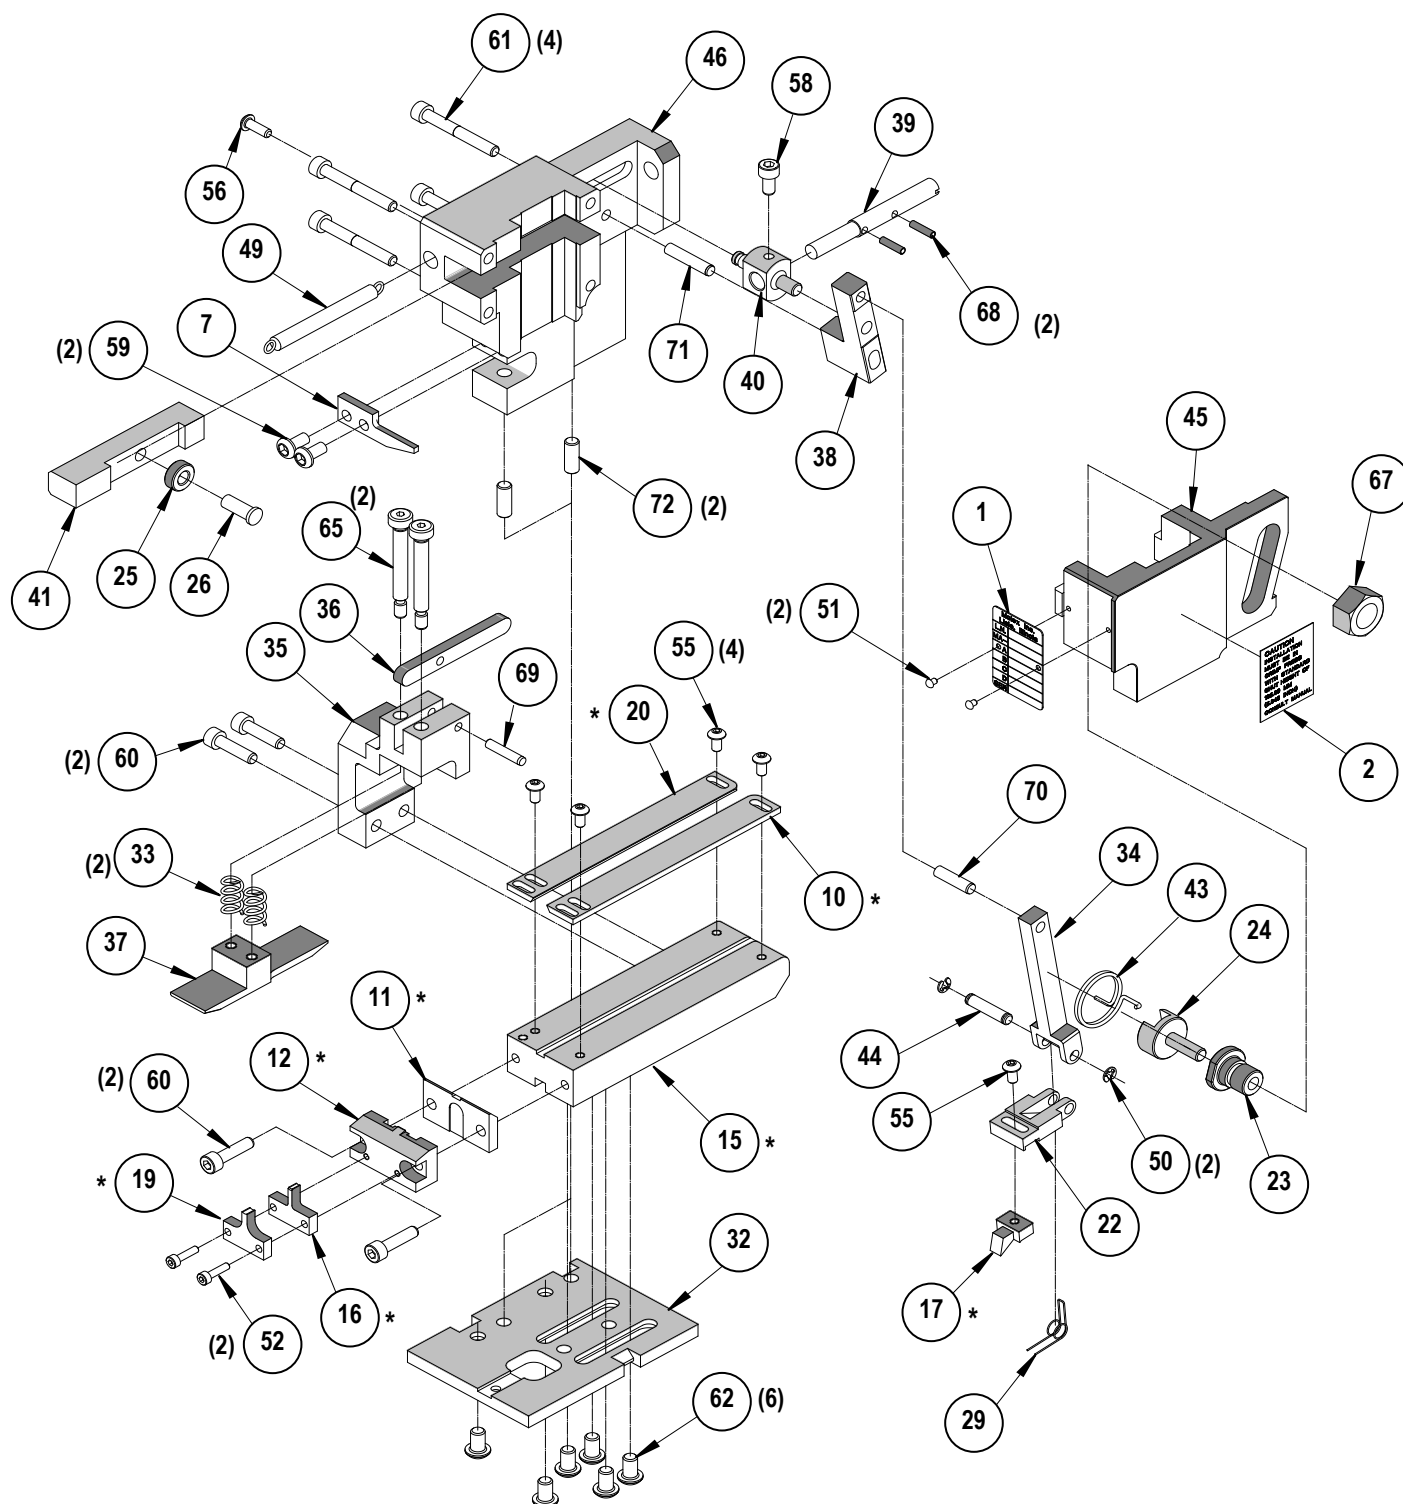

Figure 4-5
**VERSION 1** Parts List and Assembly Drawings for Mini-Mac Back Feed Applicator (See Figure 4-5 and 4-6)